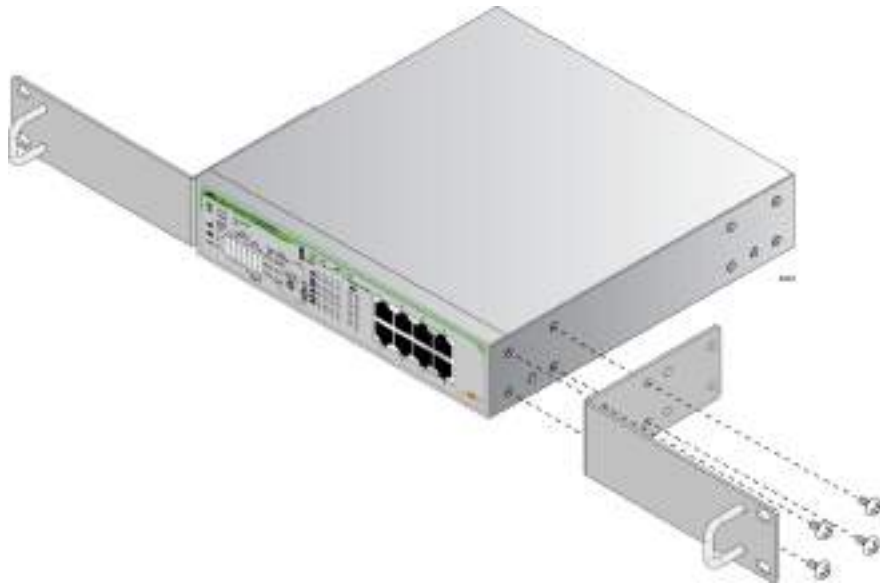

Figure 37. Installing the Brackets on the Switch
3. Attach the two rack mount brackets to the sides of the switch with the eight bracket screws as shown in Figure 37.